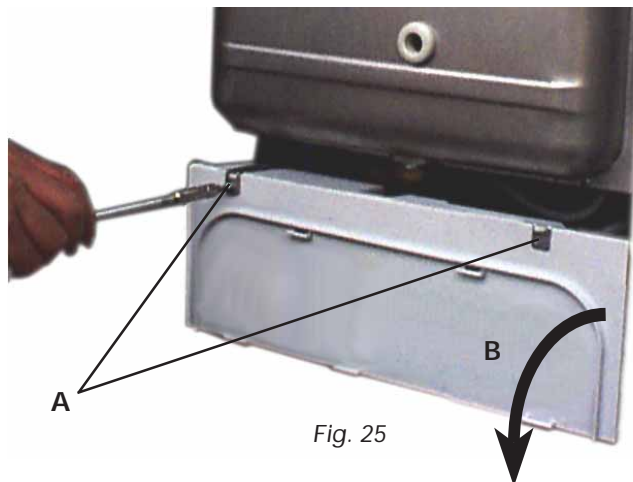

Fig. 25
7.03 To lower the control panel (fig. 25)
- Remove the two fixing screw (fig. 25) "A"